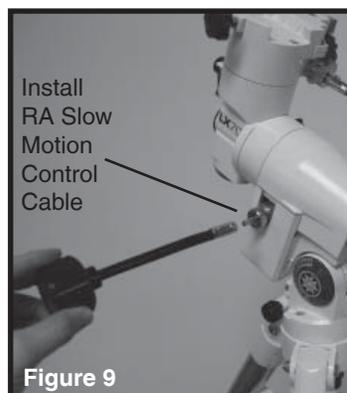

Figure 9
11. The RA slow motion control cable and latitude adjustment knobs that came with the mount can now be secured as described in the LX70 instructional manual. See Figure 9.